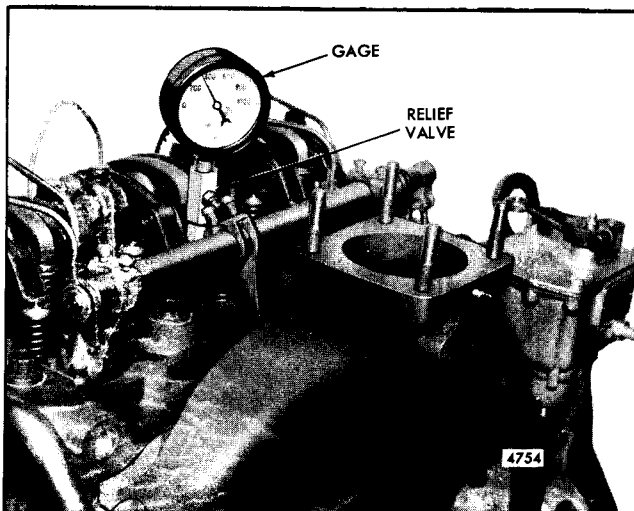

Fig. 1 - Checking Compression Pressure
3. Remove the injector and install adaptor J 7915-02 and pressure gage and hose assembly J 6692 (Fig. 1).
On turbocharged engines, check the exhaust back pressure in the exhaust piping 6" to 12" from the turbine outlet (Fig. 1, Section 13.2). The tapped hole must be in a comparatively straight pipe area for an accurate measurement.